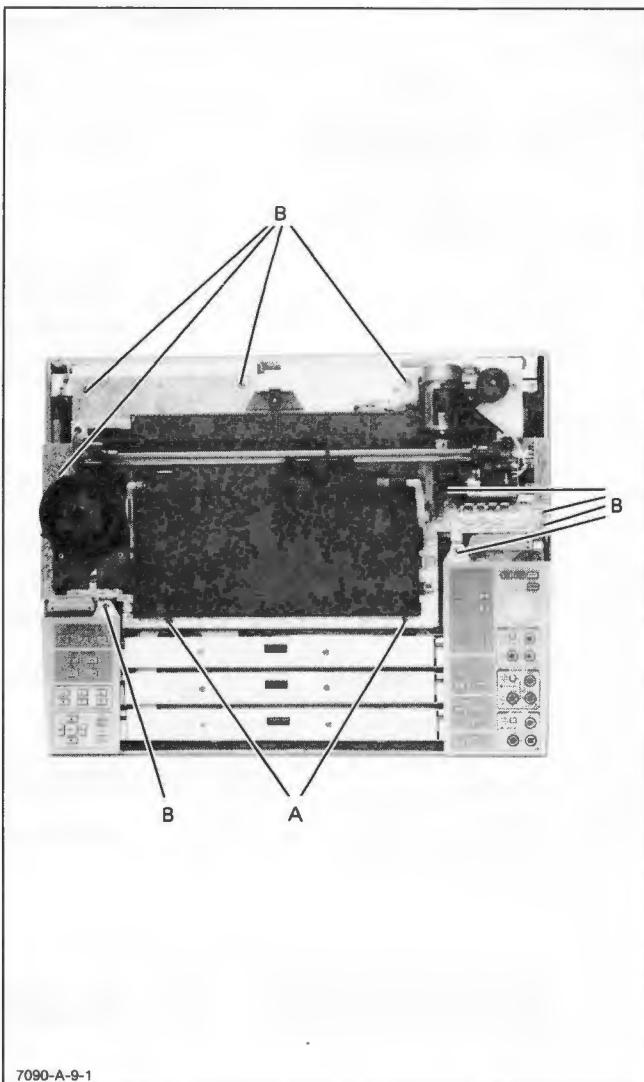

Figure 8-14. Opening Chassis Base
- See Figure 8-14. Loosen the two screws labeled "A" and remove the nine screws labeled "B".